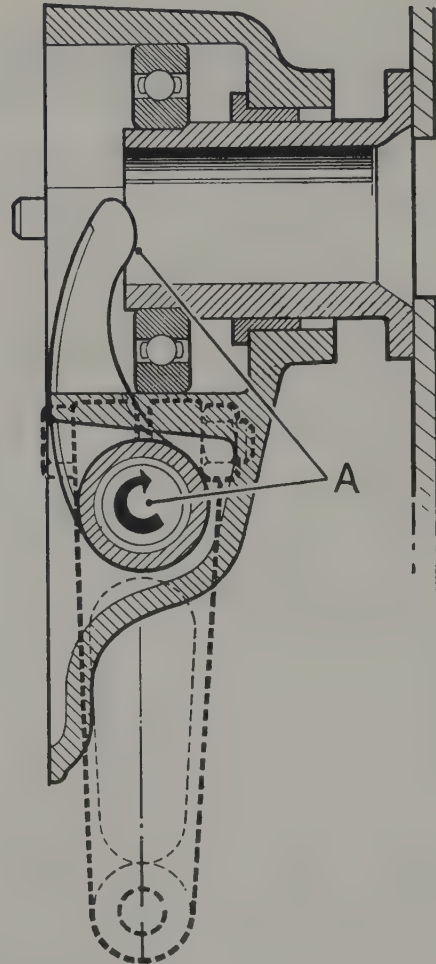

Fig. 1.67. Rotating clutch withdrawal shaft (A) in a clockwise direction
- 5 Rotate the clutch withdrawal shaft until resistance is felt as the withdrawal sleeve contacts the clutch, (Fig. 1.67) then fit the external clutch lever in the downward vertical position. It may happen that the true vertical cannot be achieved, in which case take the nearest serration on either side of vertical.